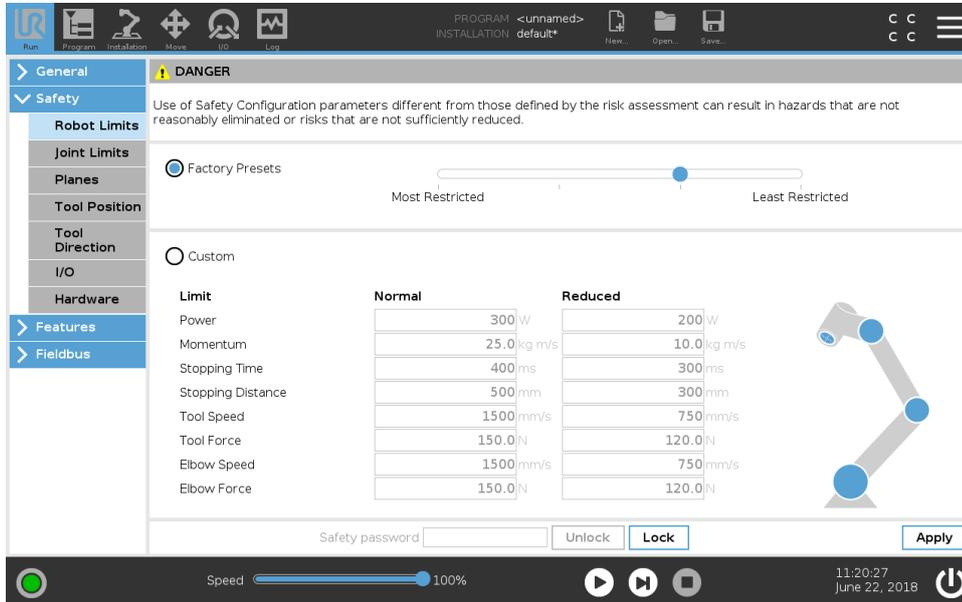

Figure 2.5: Safety settings
- (6) In the menu on the left, tap **Safety** and select **Robot Limits**.
- (7) Enter your safety password to unlock Safety Configuration.
- (8) Set Factory Presets to **Least Restricted** and tap **Apply** (see Figure 2.5).
- (10) In the Header, hold down the Run Tab to access **Expert Mode**. See Figure 2.5.
- (11) Enter password and tap **OK**.